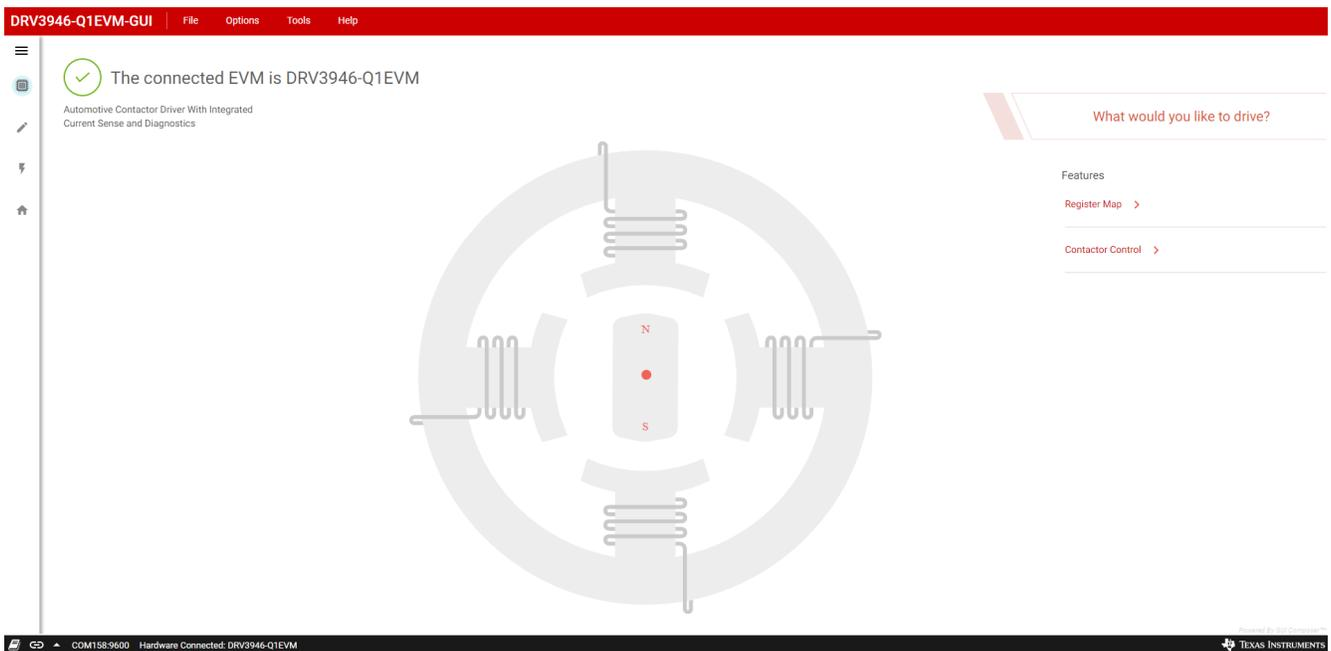

Figure 4-2. Successful EVM Connection
- After clicking the icon, the GUI application initiates communications with the EVM. Connection confirmation is displayed as shown below in Figure 4-2. The EVM should now be connected. The GUI_STATUS LED (D11) blinks to confirm that there is a successful GUI connection. Do not proceed to use the GUI app if the D11 is not blinking.
4. The GUI will attempt to connect to the EVM. After successfully connecting, the page resembles Figure 4-2. If connection is not successful, follow instructions in Section 4.1 and Section 4.2.